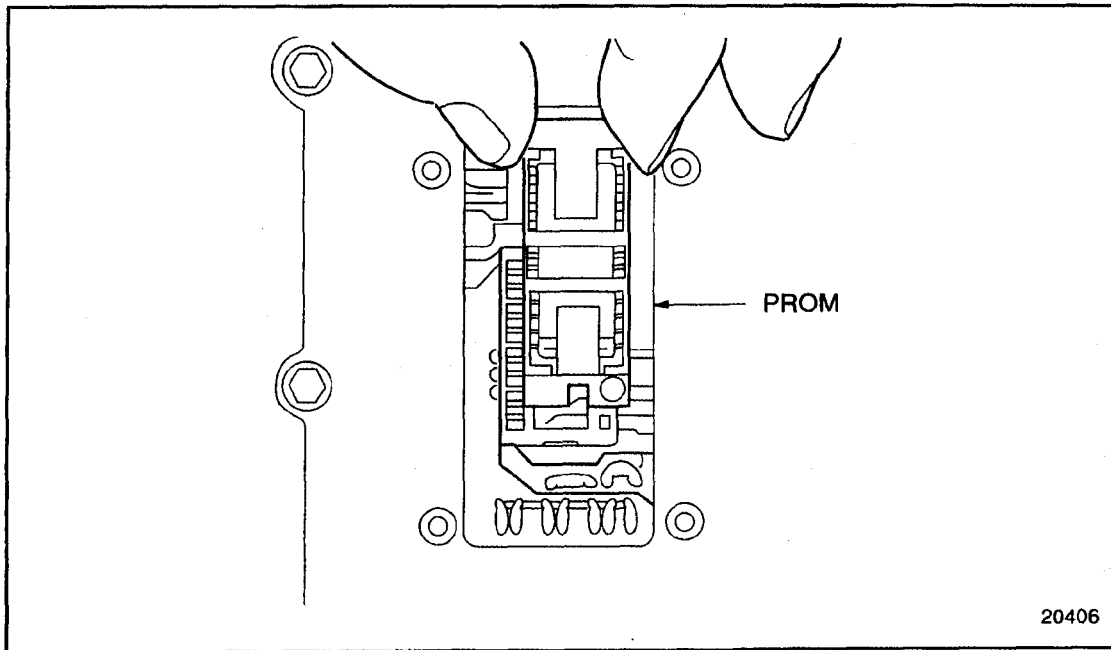

Figure 2-91 Indexing PROM for Installation
2. Position the new PROM and carrier squarely over the PROM socket with the small notched end of the carrier aligned with the narrow tab on the socket. The numeral one in a circle at the lower right corner of the PROM carrier should be installed in the same position as the numeral one located on the socket. See Figure 2-91.